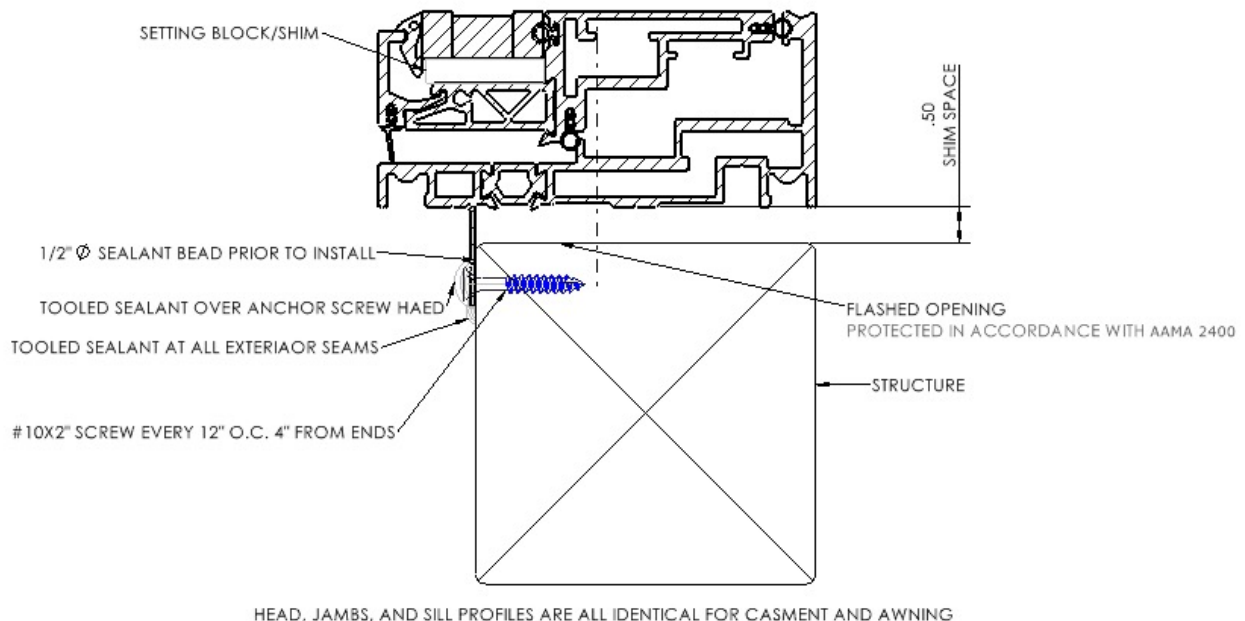

Figure 1
4. Anchor the window nail-fin to the structure with #10 x 2" screws every 12" on center, 4" from each end max. (See Figure 1).